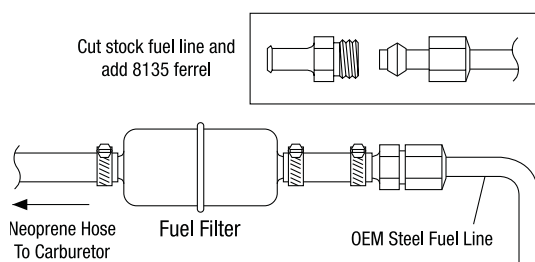

Fig. 3 - Fuel Line Kit #8135 Installed on Stock Steel Line
2. **The stock steel fuel line must be converted** to fuel resistant rubber hose. The stock steel line will not connect to the Performer Series Carburetor. Use Edelbrock Universal Fuel Line Kit #8135. This kit contains a filter, neoprene hose, and fittings to adapt to 5/16" or 3/8" stock steel fuel lines (**See Fig. 3**).